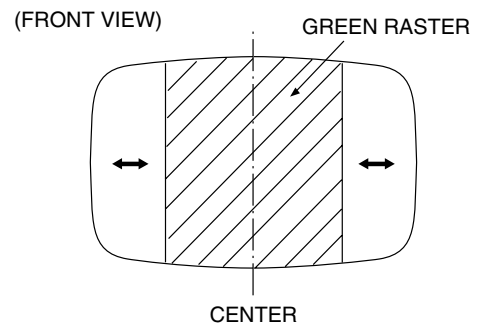

Fig. 3
7. Adjust the gap between two lugs so that the GREEN RASTER will come into the center of the screen. (Fig.3)